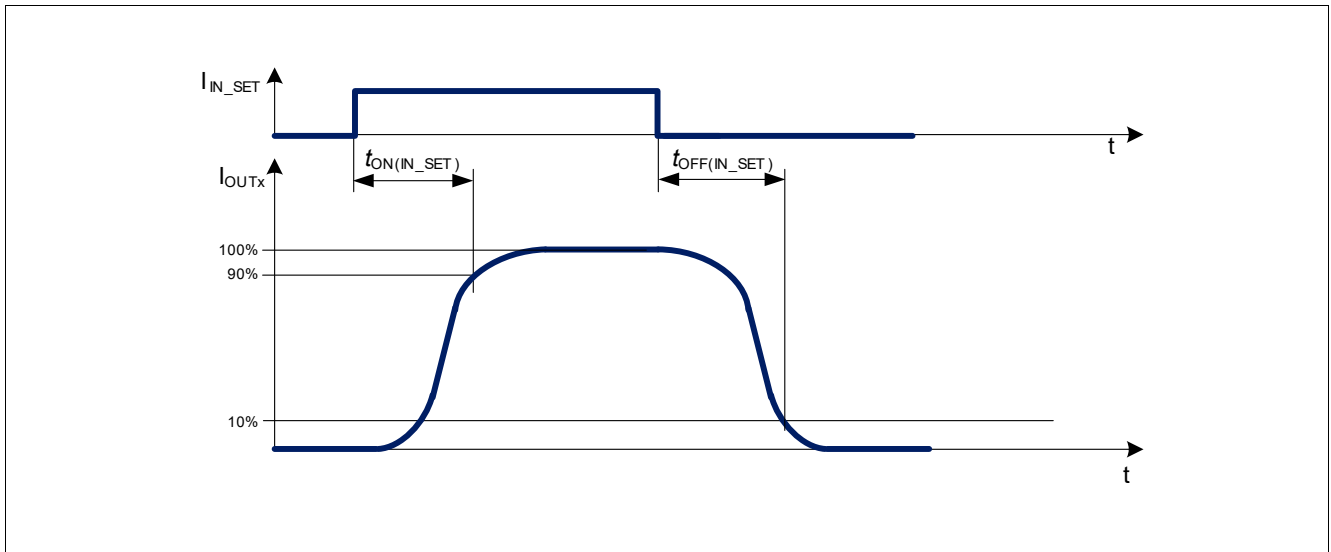
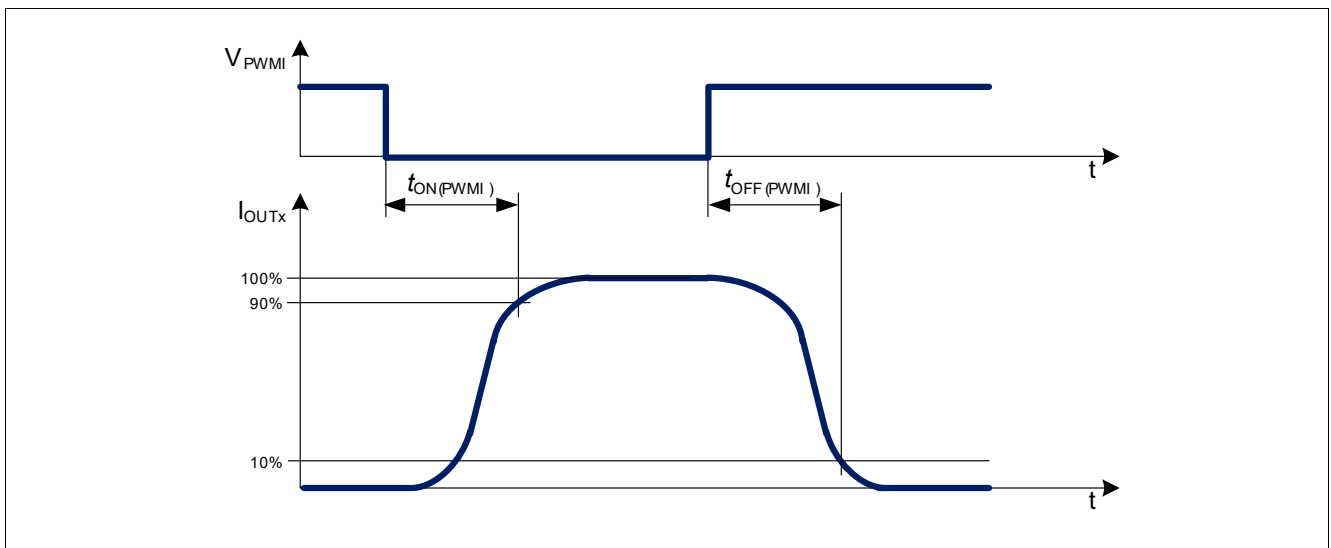

Figure 12 IN\_SET turn on and turn off delay timing diagram
Figure 14 PWMI turn on and turn off timing diagram
In the following diagrams (Figure 12, Figure 14) the influences of different driving inputs on output activation delays are shown.
- 2) Refer to Figure 12
- 4) Refer to Figure 14